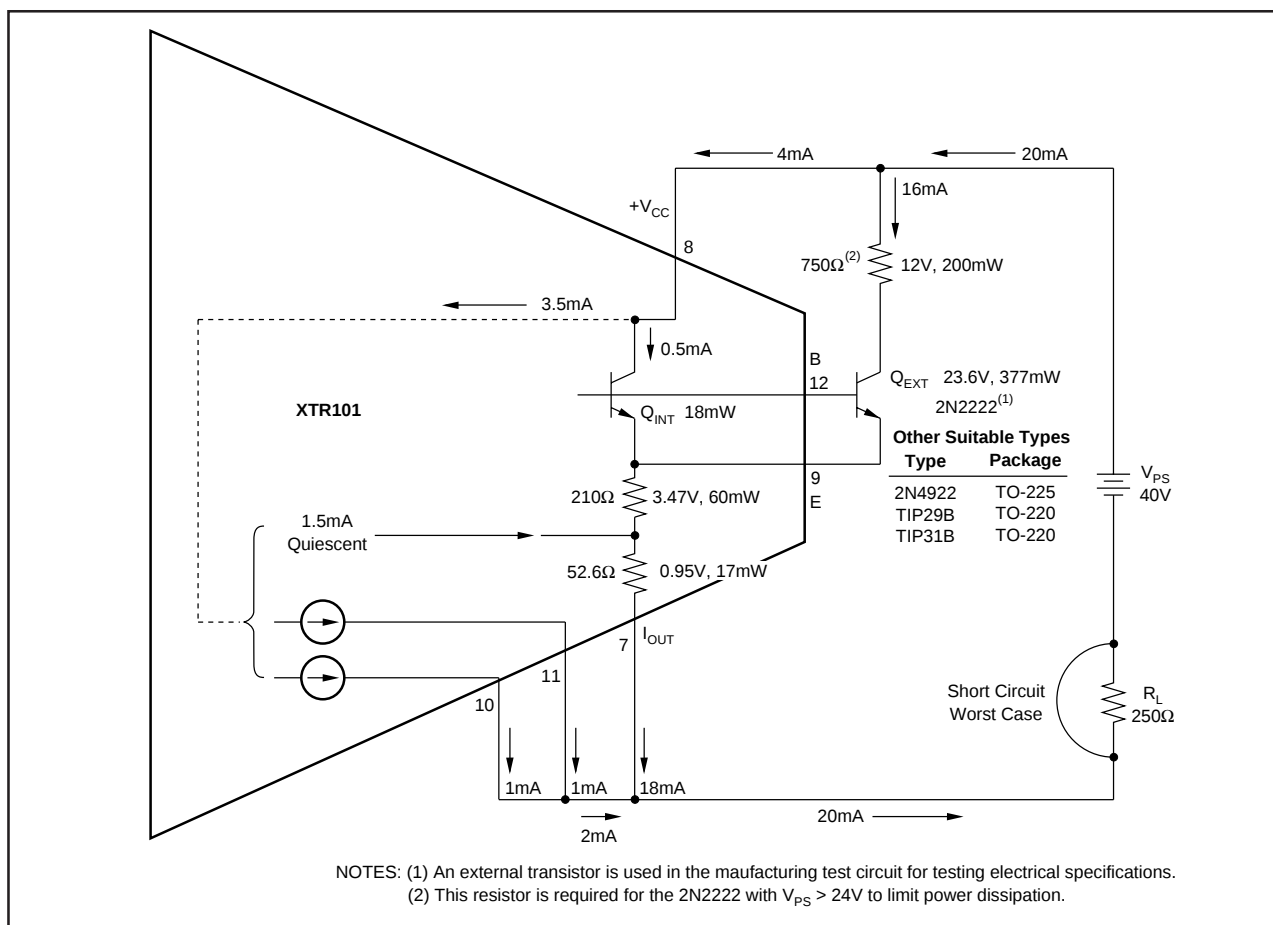

FIGURE 2. Power Calculation of XTR101 with External Transistor.
The optional external transistor, when used, is connected in parallel with the XTR101's internal transistor. The purpose is to increase accuracy by reducing heat change inside the XTR101 package as the output current spans from 4-20mA. Under normal operating conditions, the internal transistor is never completely turned off as shown in Figure 2. This maintains frequency stability with varying external transistor characteristics and wiring capacitance. The actual "current sharing" between internal and external transistors is dependent on two factors: (1) relative geometry of emitter areas and (2) relative package dissipation (case size and thermal conductivity). For best results, the external device should have a larger base-emitter area and smaller package. It will, upon turn on, take about $[0.95 (I_O - 3.3\text{mA})]\text{mA}$. However, it will heat faster and take a greater share after a few seconds.
1. 2N2222 in the TO-18 package. For power supply voltages above 24V, a 750Ω, 1/2W resistor should be connected in series with the collector. This will limit the power dissipation to 377mW under the worst-case conditions shown in Figure 2. Thus the 2N2222 will safely operate below its 400mW rating at the upper temperature of +85°C. Heat sinking the 2N2222 will result in greatly reduced accuracy improvement and is not recommended.